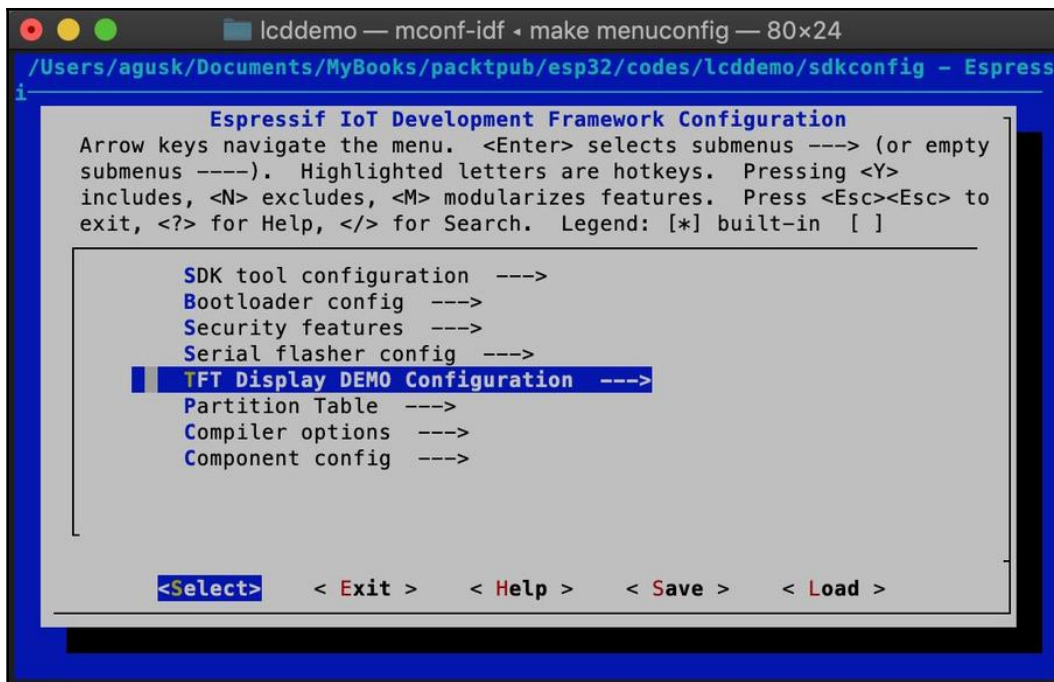

Figure 2-9: Configuring the TFT Display demo
3. You will get a form as shown in Figure 2-9. Select TFT Display DEMO Configuration from this form:
8. Next, we configure the flash size. Navigate back to the main menu as shown in figure 2-9.